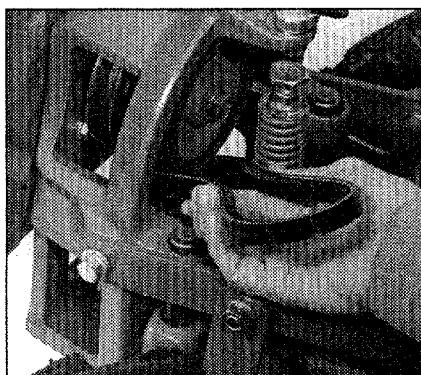

Figure 5-20: Shift into **FORWARD** and remove the belt.
6. Push the Wheels/Tines/PTO Drive Lever down into the **FORWARD** position. This increases the distance between the upper and lower pulleys. Next, lift and pull the entire belt out between the pulleys (Figure 5-20).
2. Squeeze the belt in the middle and insert one end in between the pulleys (Figure 5-20).